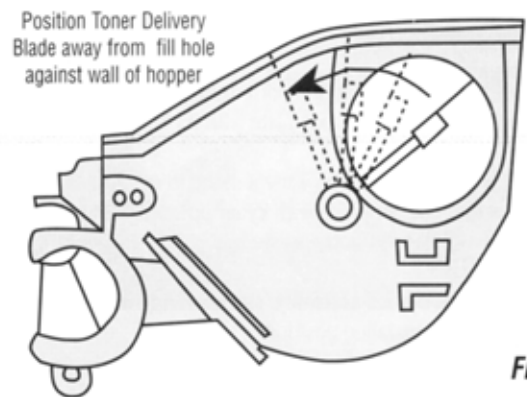

FIG 17
3. Locate the toner delivery blade through the toner fill hole. Turn the large gear at the opposite end of the hopper to position the sweeper blade against the hopper wall. Clean the toner hopper with compressed air (or a toner vacuum). Make sure all toner is removed. (Figure 17)